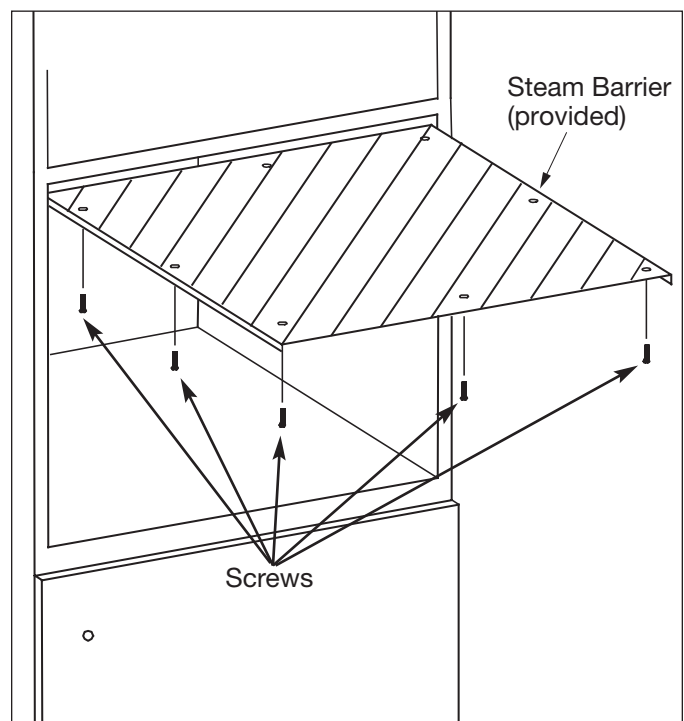

Figure 2-4. Unit Dimensions
Attach steam barrier with the eight (8) provided screws. (See Figure 2-4)